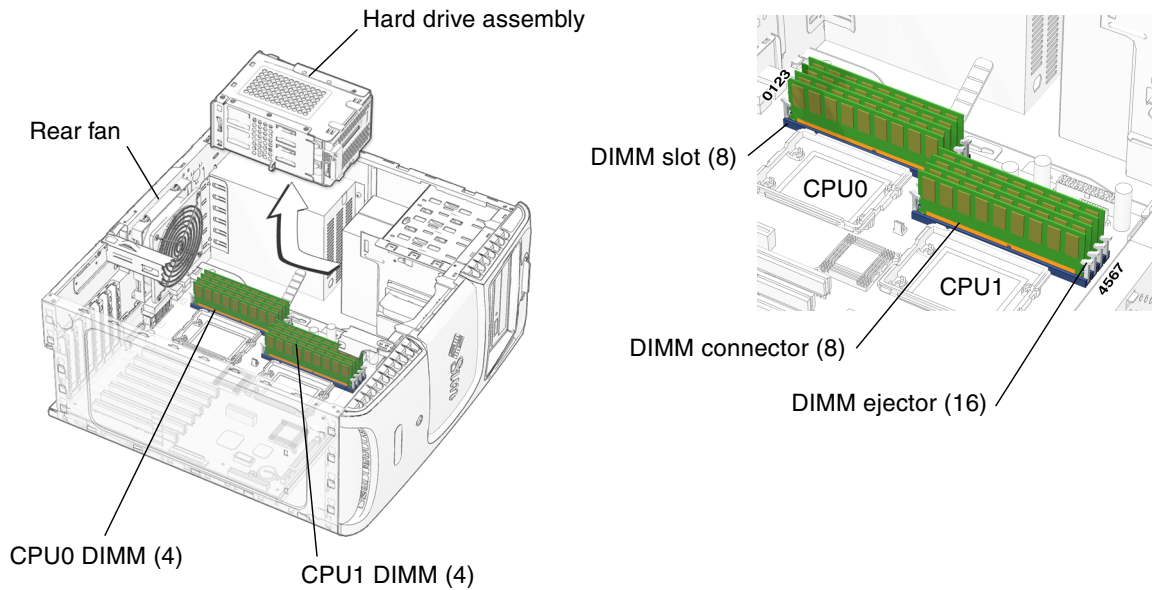

FIGURE 11-1 Memory Location and Identification
2. Locate the DIMM slots (FIGURE 11-1).